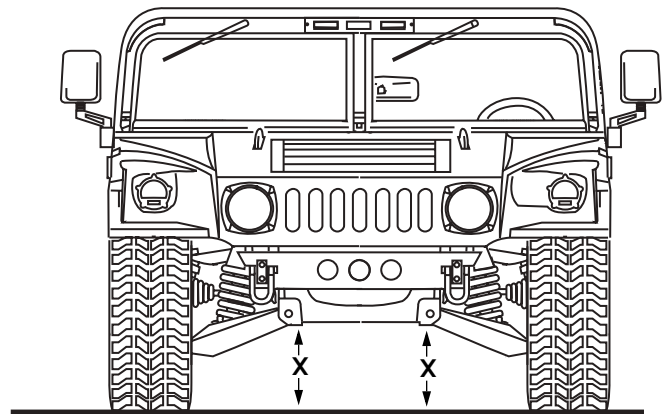

Figure 9-112: Suspension Height Measurement
6. Check suspension height by measuring distance between bottom edge of each lower control arm front crossmember bracket and shop floor as indicated by dimension "X" (Figure 9-112).